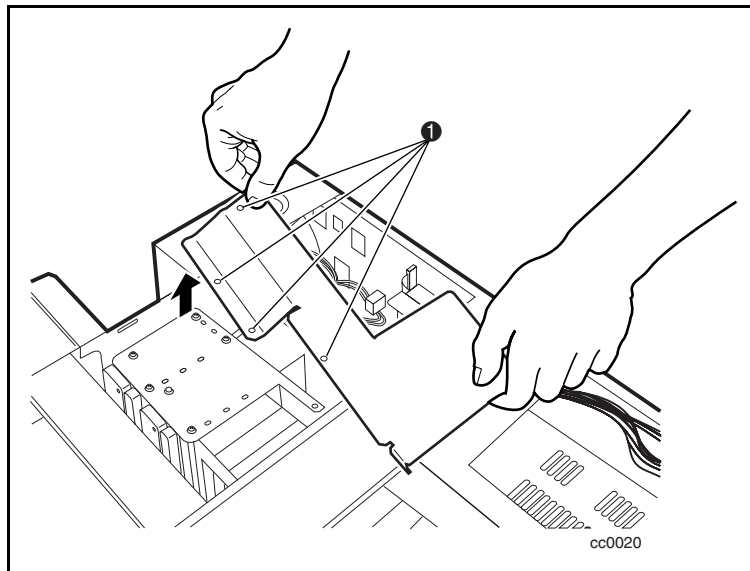

Figure 3. Brace plate removal
2. Remove the four screws that secure the brace plate to the chassis (❶ Figure 3).